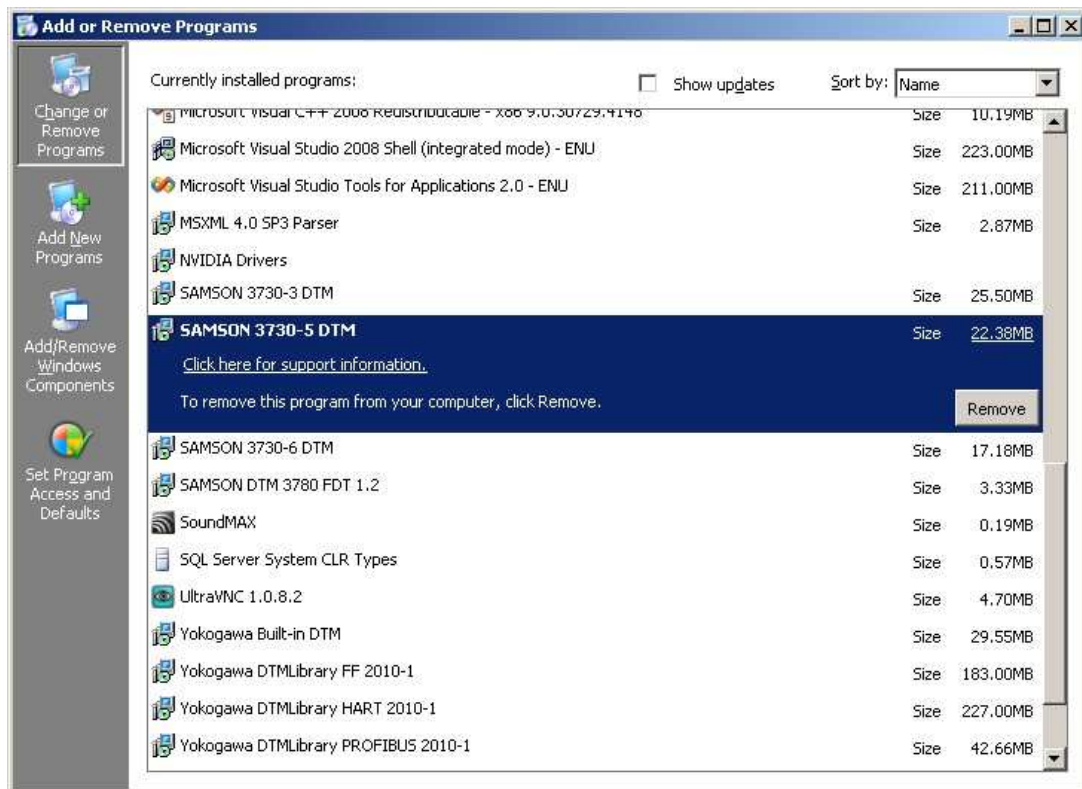

Fig. 1: Installed DTM included in list of programs
- After the DTM has been installed, it appears in the list of programs in Microsoft Windows (Fig. 1).